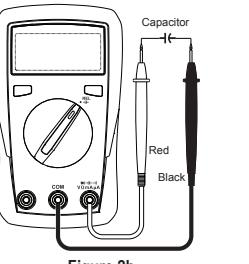

Figure 2b
4. Diode Test (see Figure 2b)
5. Capacitance Measurement (CP7401 only, see Figure 2b)